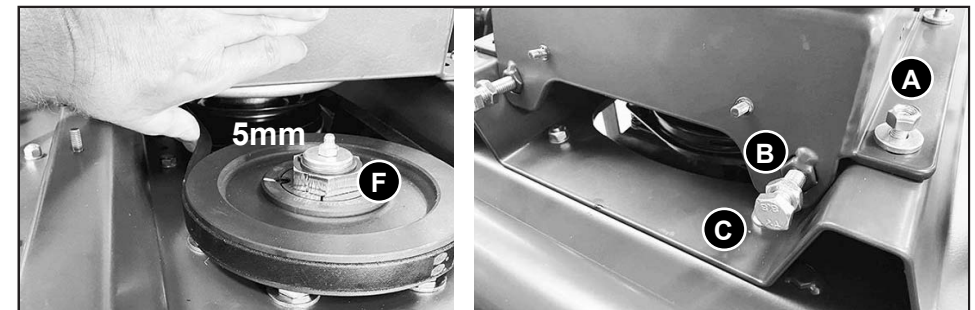
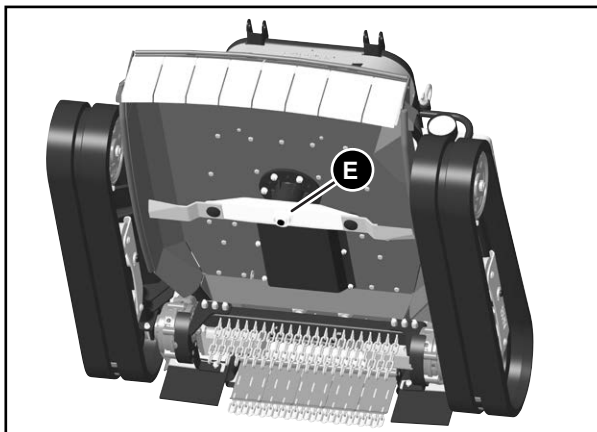
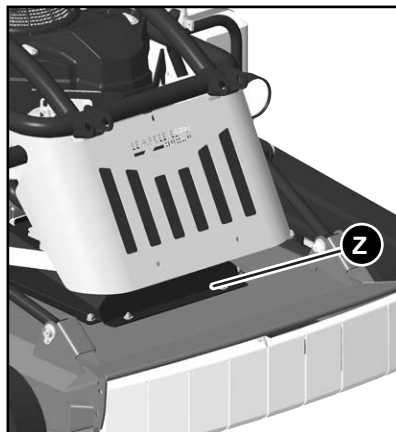

Fig. 28
Fig. 29
Fig. 7
To adjust the belt, remove the belt cover (Fig.7 (U)). Check the tension with a force of 5 kg on the belt. The bending depth of the belt should not be more than 5 mm.
If necessary, adjust the belt tension according to these instructions (Fig. 28).
If the belt needs to be replaced, the sheet metal cover under the cutting deck must be removed (see Fig. 29).
For easier loosening of the blade fixing screw (E) (Fig. 29) remove the belt guard (Z) (Fig. 7). Lock the nut (F) (Fig. 28) to prevent rotation of the pulley shaft..